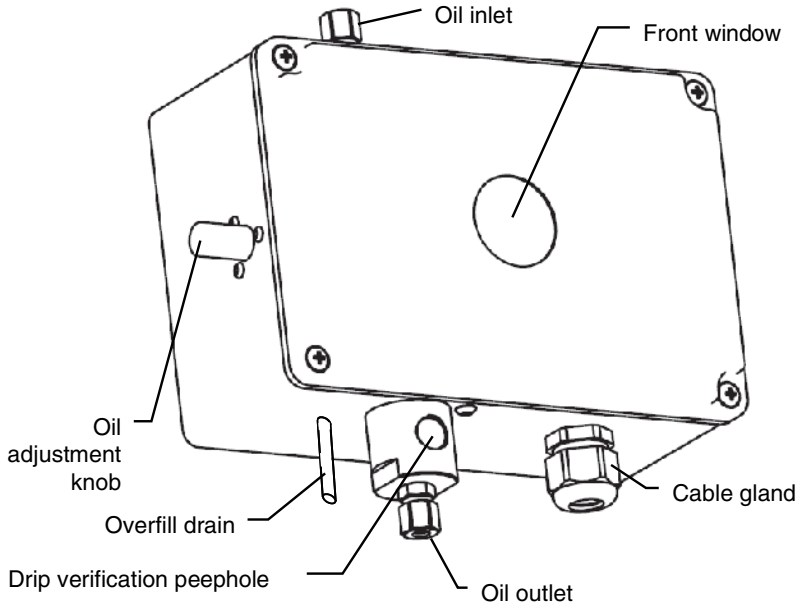
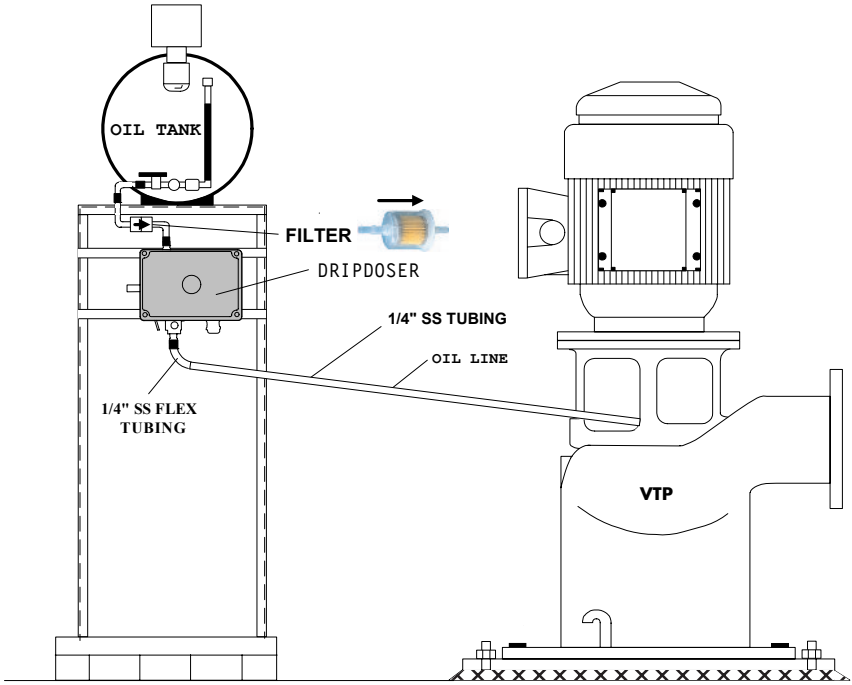

Figure 2: DripDoser external layout
Figure 5: Installation requirements
Table 1 explains the function of each component shown in Figure 2.
Important: The relative spacing between the oil tank, the DripDoser, and the line-shaft inlet should be according to Figure 5. Ensure that the angle of the copper tube is sufficient for gravity flow from the DripDoser to the line shaft.
6. Install the inlet oil filter as shown in Figure 5, noting the filter is directional.
3. Connect the DripDoser oil outlet (Figure 2 and Figure 5) to the well shaft inlet by means of flexible ¼-inch copper tubing or stainless steel tubing.